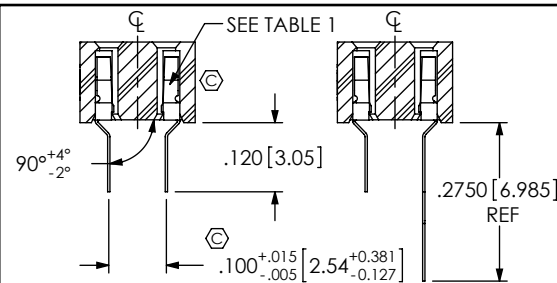

FIG 2
- *-TE: TOP ENTRY (SEE TABLE 1 & FIG 2)